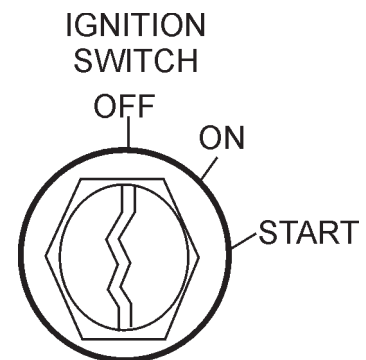

Figure 21. Ignition Switch
5. Insert the ignition key into the **ignition switch** and turn the key to the **ON** position, then to the **START** position (Figure 21). Release the key when the engine starts.
- Turn the **ignition key** (Figure 21) to the **OFF** position.